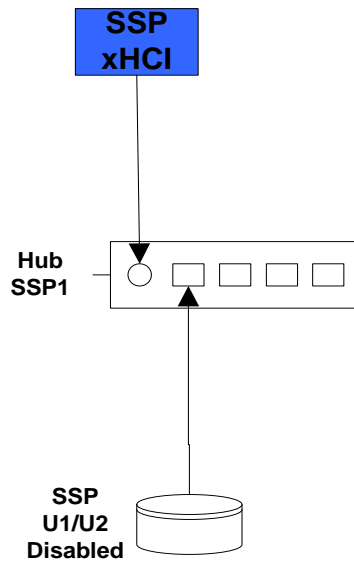

Figure 5-9: Hub and U1/U2 Disabled Device
- Without detaching hub from the host, attach a SuperSpeedPlus, U1/U2 disabled device as shown in Figure 5-9.